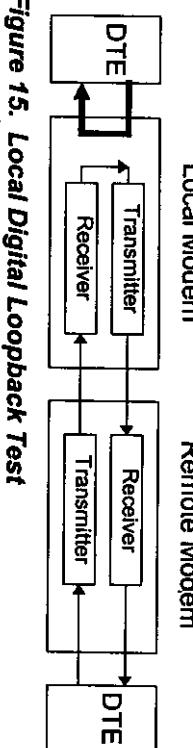

Figure 15. Local Digital Loopback Test
- **Local Digital Loopback (LDL)** - This test allows you to check the connection of the modem to the DTE (Figure 15). Data received from the line is returned to the remote modem. A successful LDL test means that the DTE and connections are working properly.